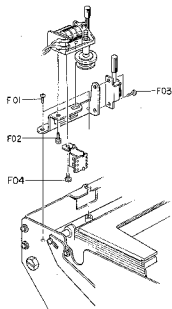

Fig. 3.7 Serial No. A206.7 05001 and greater
Refer to Fig. 3.7. Remove front panel ass'y referring to item 3.5. Remove F01 through F04, then counter ass'y, memory switch and hall IC P.C.B. ass'y.